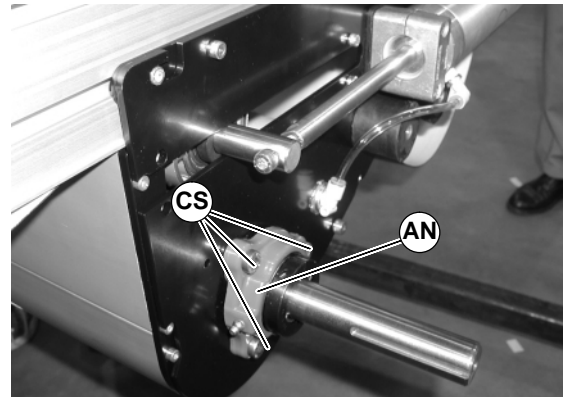

Figure 86
4. Remove the three (3) mounting screws (CS of Figure 86).
5. Remove and replace bearing housing assembly (AN of Figure 86).